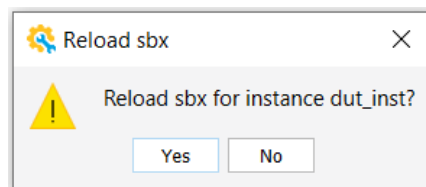

Figure 6.10. Reload sbx
3. Reload dut_inst by double clicking on it. The **Reload sbx** window opens as shown in Figure 6.10.